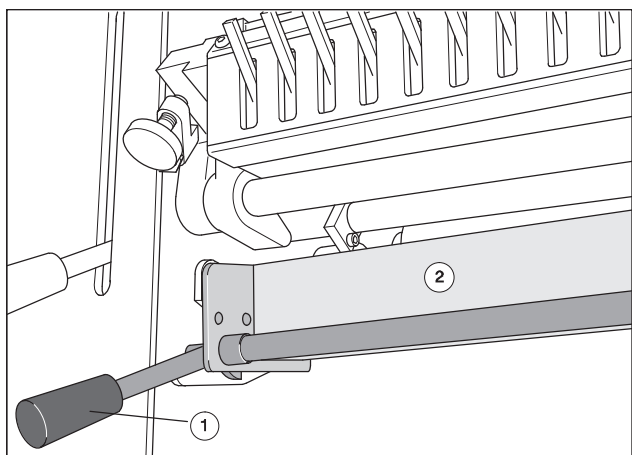

Fig. 76 Inking roller washup device inserted
2. Slide in the inking roller washup device (Fig. 76/2) up to stop. The lever (Fig. 76/1) must be pressed all the way down for insertion.